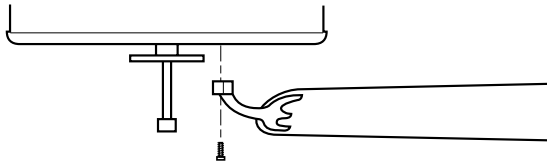

Figure 13
- B. Remove the screws from the motor hub. Insert one of these screws in hole in blade bracket. Use a screwdriver to hold in place. Align blade holes with mounting holes in hub, by turning screw and readjusting blade bracket until screw mates with threaded hole in hub. Do not tighten until both screws have been put in blade bracket. Repeat for all blades. See Figure 13.